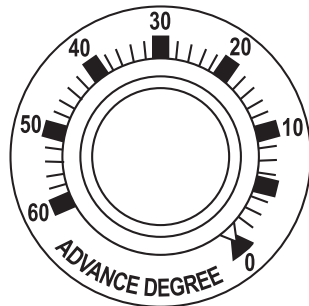

FIGURE 3.
1. Set the knob at "0" position as figure 3.